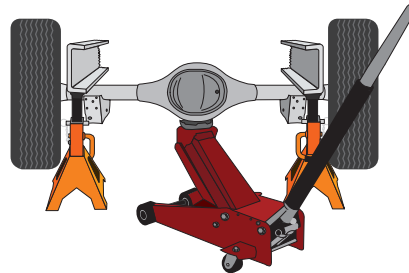

fig. 2
1. Raise the vehicle and support it in a way, using safety stands or equivalent, so that the axle can be safely dropped away from the frame. (Fig. 2).